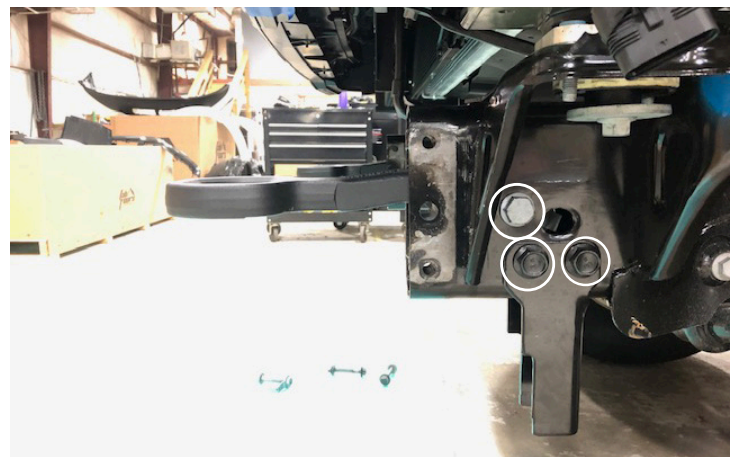

Figure 9
9. Using a 24mm socket wrench, remove the factory bolt and nut tabs from the frame rail to remove the factory tow hooks and crash bars. (Figure 9)